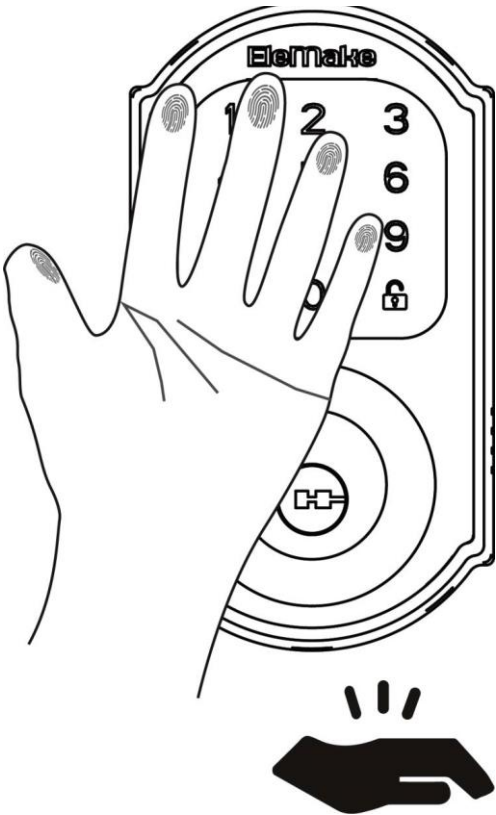
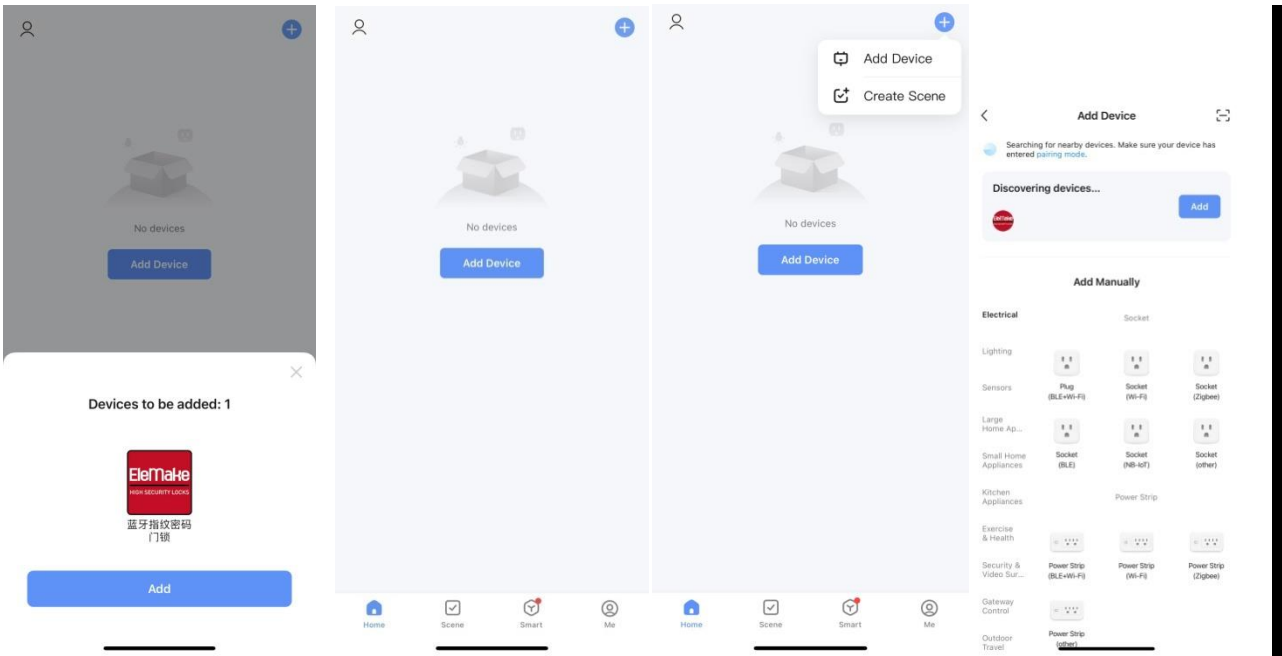
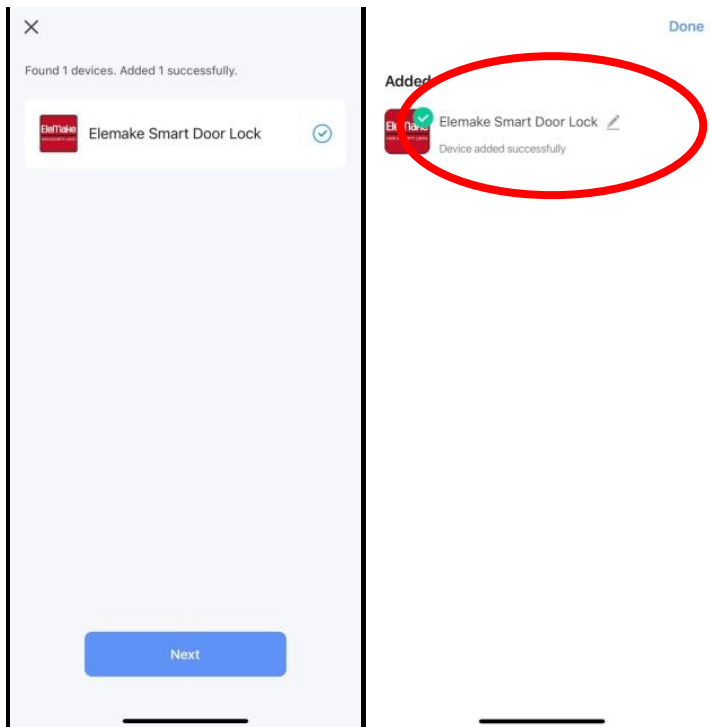
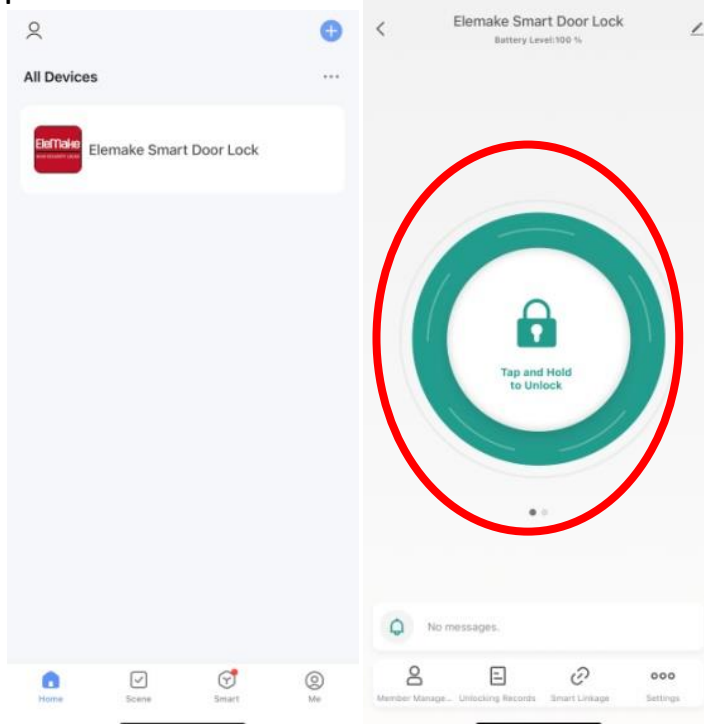

Figure L-1
Figure L-2
Figure L-3
Figure L-4
- (2) Step 2--Connect the deadbolt to mobile phone App Smartlife with Bluetooth (See Figure L-1, Figure L-2, Figure L-3 ,Figure L-4)
- (b) Touch the screen with back of your hand to activate the deadbolt.(See **Figure L-1**)
- (c) Enter the Smartlife app, it automatically find the lock, or you can click” add the device “to search the deadbolt. Then will see the device with Elemake logo. .(See **Figure L-2**)
(d) Click the deadbolt’s logo to connect the deadbolt, Name the deadbolt and save. .(See **Figure L-3**)
(e) If successfully connected the Smartlife app with the deadbolt. The opening button on the screen will turn to green colored . User can use the mobile phone to unlock the deadbolt via the Bluetooth. (See **Figure L-4**)